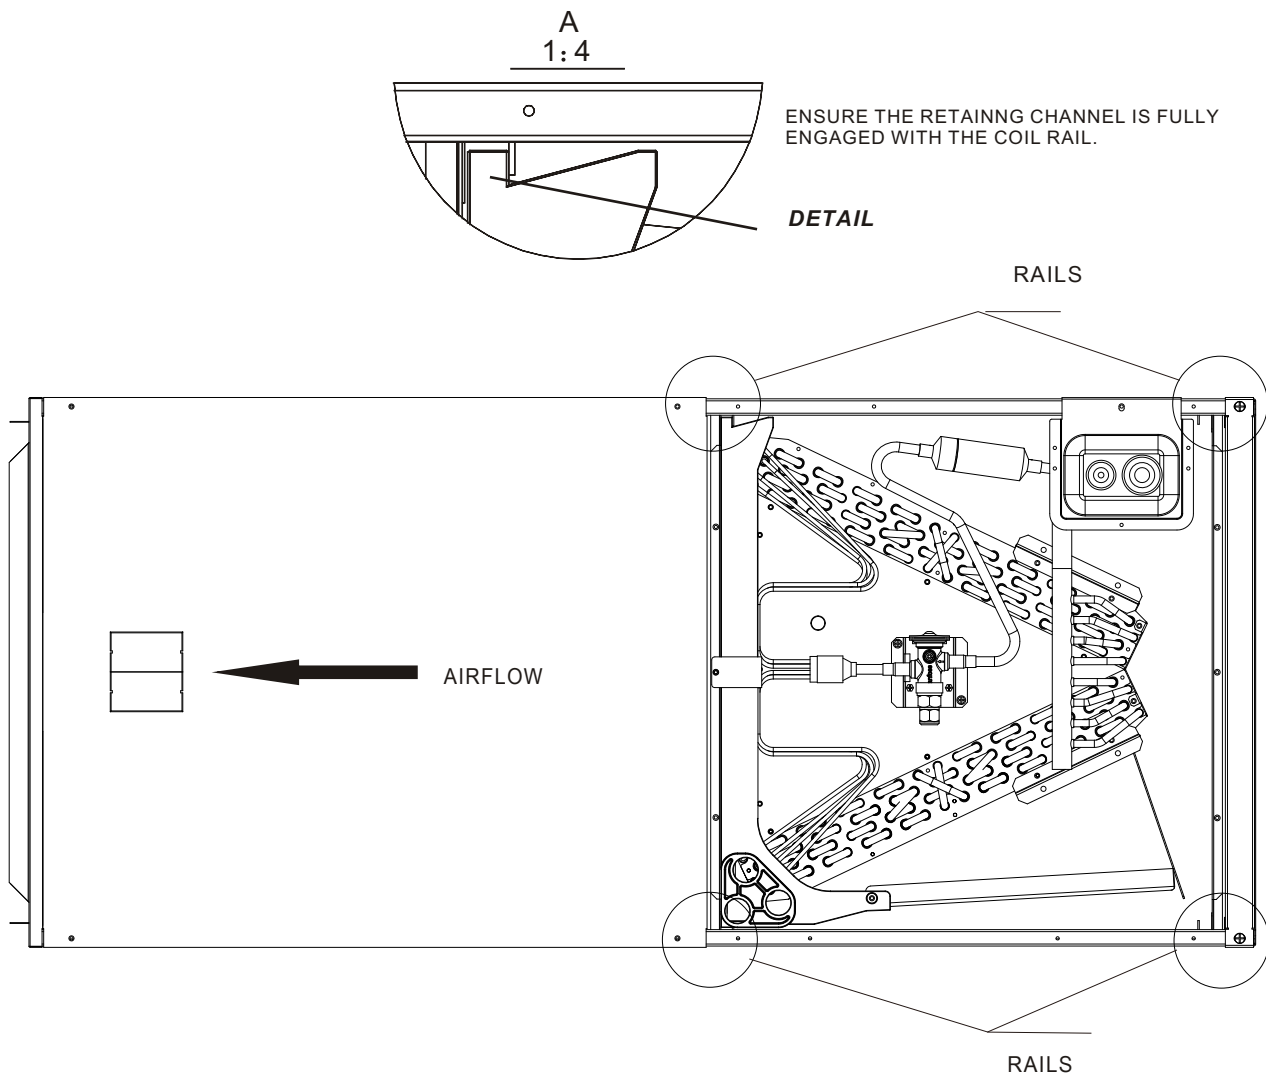

Figure 3-4 Horizontal left-flow application
- Reinstall the indoor coil 180° from original position. Ensure the retaining channel is fully engaged with the coil rail(Figure 3-4 and 3-5).